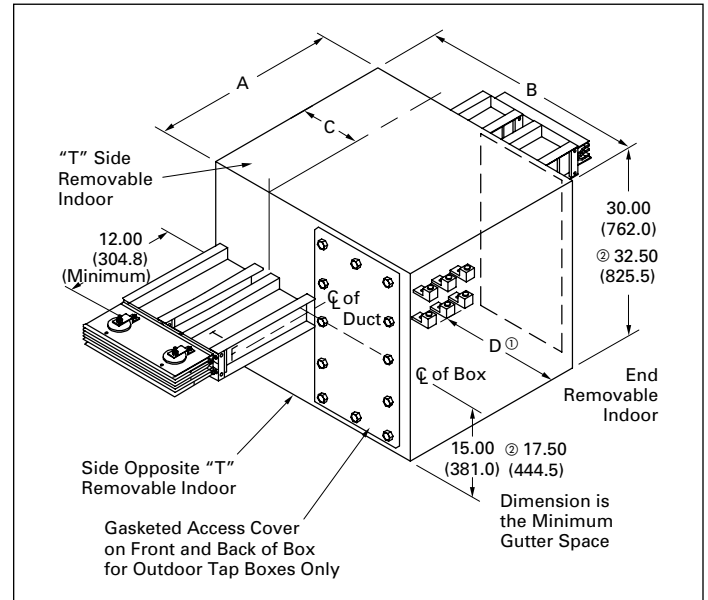

Figure 24.1-25. Center Cable Tap Box
See Figure 24.1-25
③ For compression lugs, factory provides provisions only.
④ All dimensions shown in **Figure 24.1-25** remain constant regardless of system wiring configuration.
⑤ Denotes quantity of terminals per ground bus.
⑥ Denotes quantity of terminals per phase and 100% neutral bus.
⑦ Denotes quantity of terminals per 200% neutral bus option.